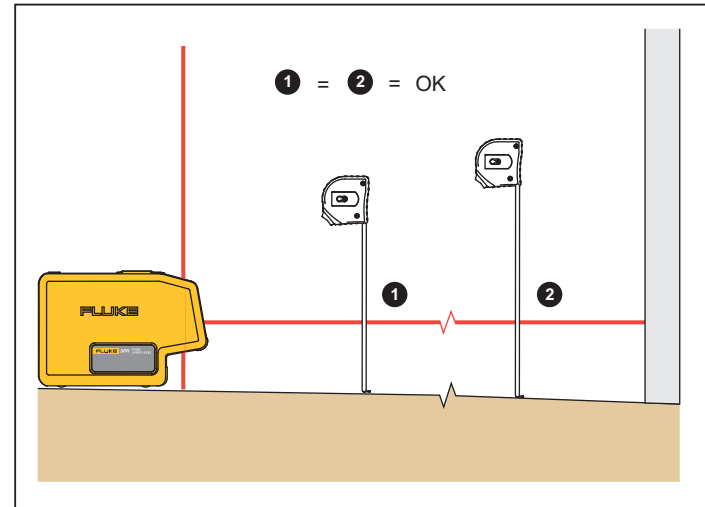

Figure 2. Level of Existing Item
2. Measure the distance from the item to the laser. See Figure 2.